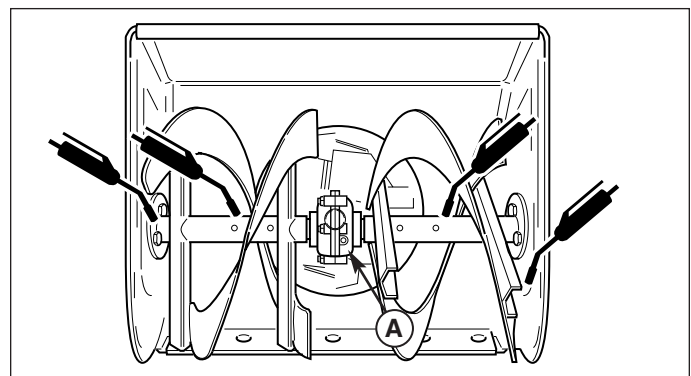

Figure 9. Auger Lubrication
2. Remove the pipe plug (A, Figure 9).
There are two grease fittings on the auger shaft (Figure 9). Wipe the fittings clean and apply grease, using a grease gun. Also apply grease on other points indicated.